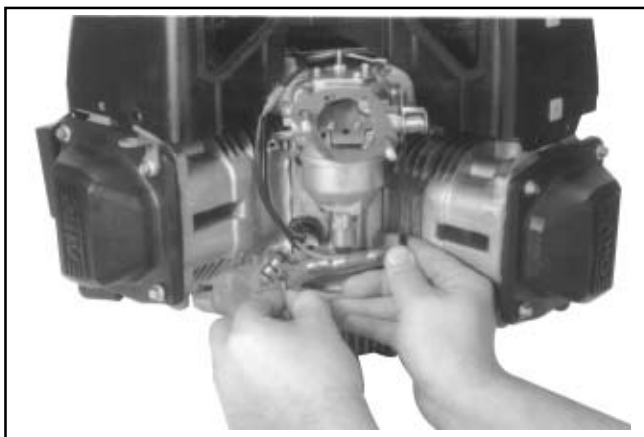

Figure 11-68. Install Governor Lever to Shaft.
1. Install the governor lever onto the governor cross shaft. See Figure 11-68.